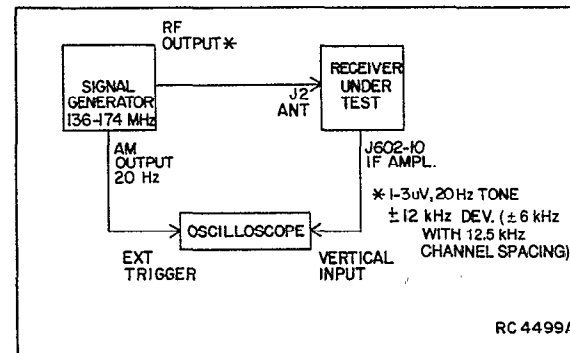

Figure 6 - Test Set-up, Audio Output Measurement
2. Using an HP8640B signal generator, set to an on-channel frequency, feed a 20 Hz modulating frequency with  $\pm 12$  kHz of deviation into the radio at antenna jack J2. (See Figure 6).